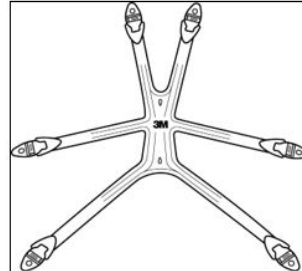

Fig.21
3. Place the head harness down on a flat surface with the 3M logo facing up (Fig. 21).